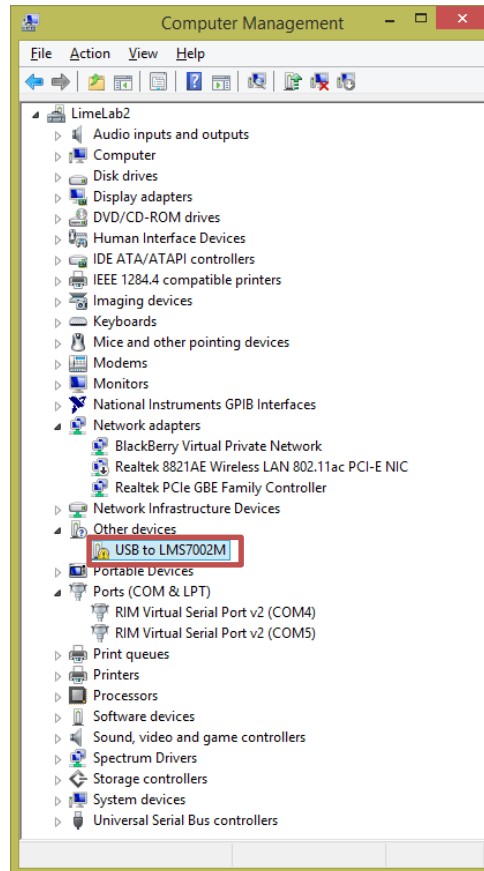

Figure 3 Device Manager content
3. Locate **USB to LMS7002M** under **Other devices** and press right click to select **Properties** *Figure 3*